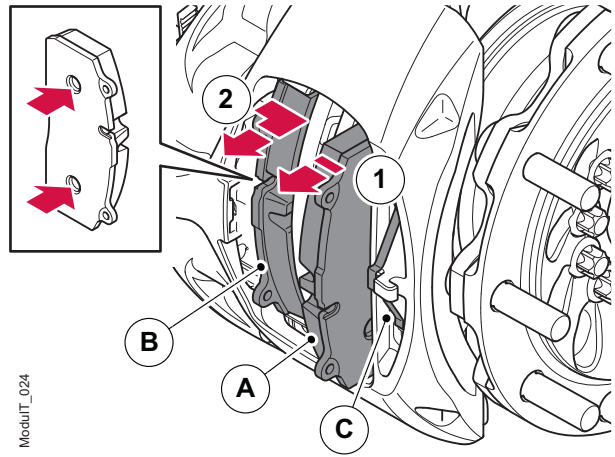

Figure 33. Removal of brake pads
5. Remove the brake pads; always remove the outer brake pad (A) first, followed by the inner brake pad (B). See figure 33.